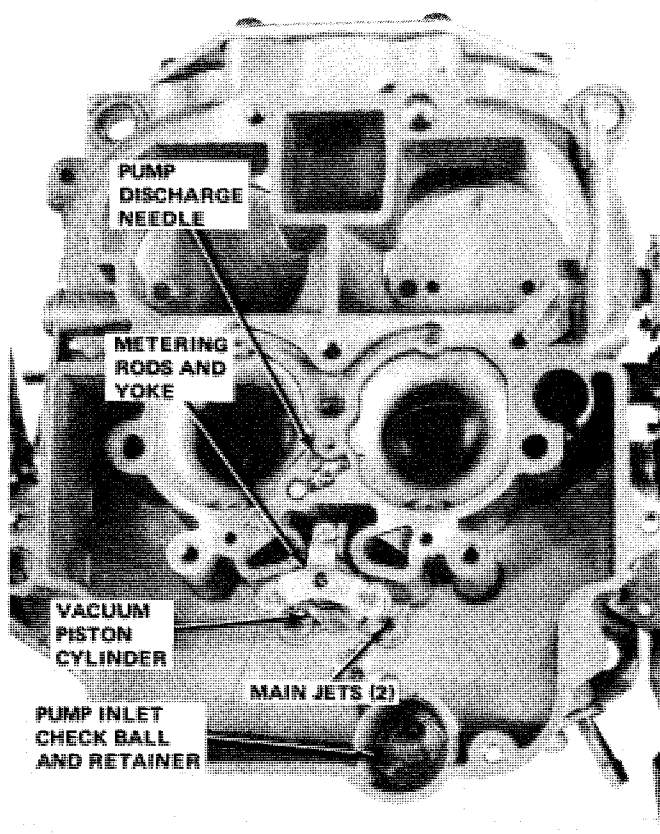

Fig. 1J-110 Fuel Bowl Interior
- (9) Remove secondary air valve damper link pivot in and remove rod from link.
- (10) Remove air valve damper piston, rod and spring.
- (11) If it is necessary to remove secondary air valve plate or shaft, remove air valve plate attaching screws. Remove plate, then slide shaft out of air horn.
- (12) Remove accelerator pump arm retainer and slide accelerator pump lever and rod from air horn.
- (13) Remove accelerator pump from pump arm.
- (14) Turn main body upside down and catch accelerator pump discharge needle and check ball (fig. 1J-110).